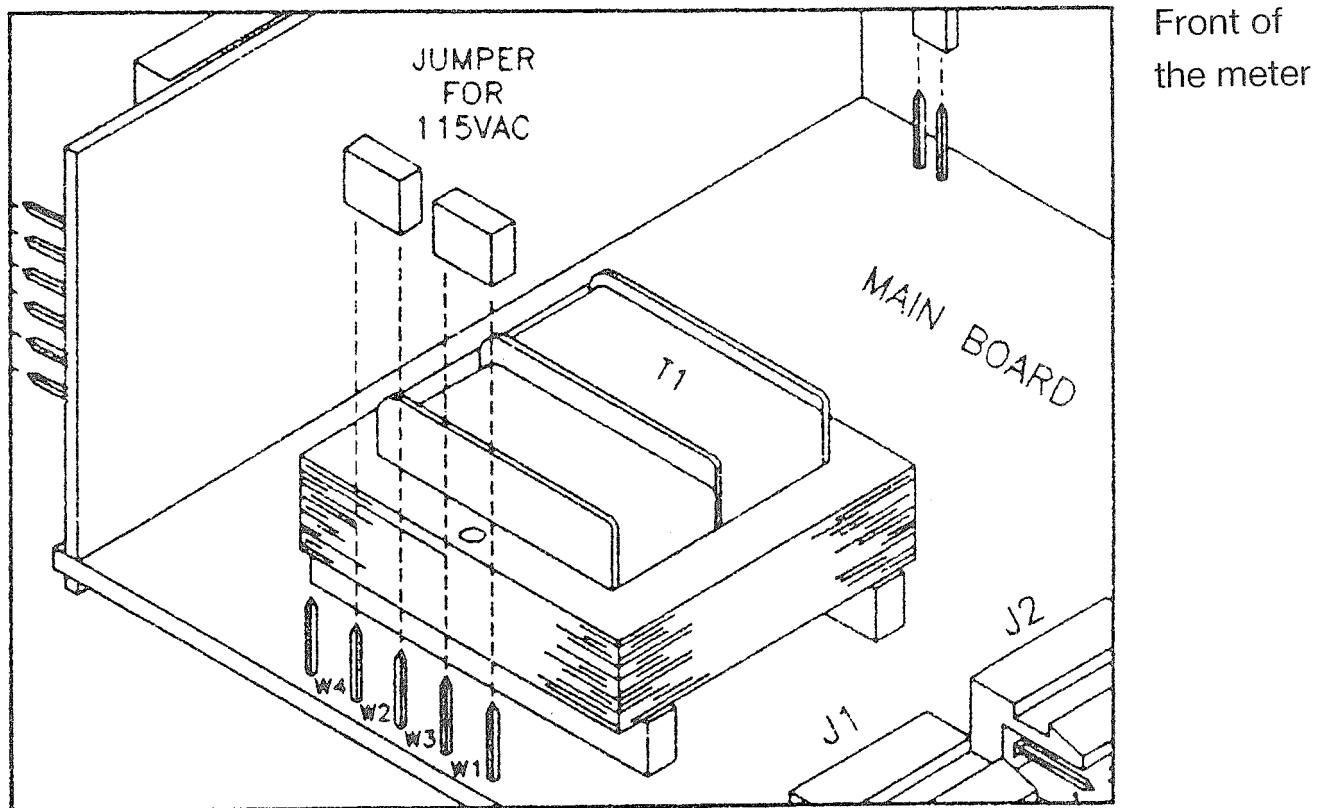

Figure A-1 115Vac Wiring
3. If your power requirement is 115 Vac, install jumpers W1 and W2. If your power requirement is 230 Vac, install jumpers W4 and W3. Refer to Figures A-1 and A-2.